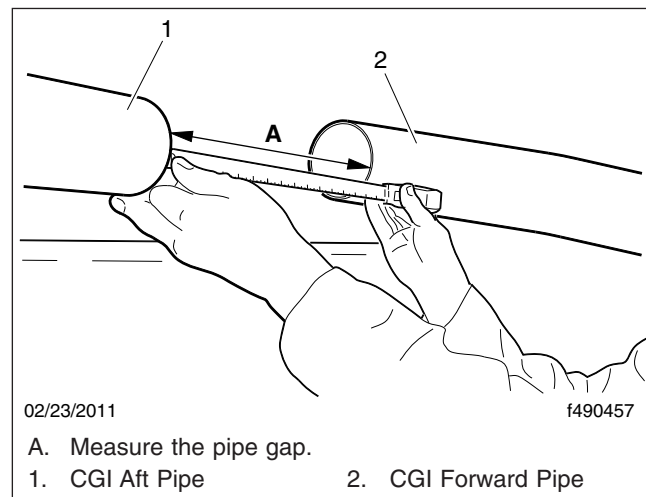

Fig. 9, Measuring the Pipe Gap (typical)
7. Once the pipes are aligned, measure the pipe gap between the CGI pipes and record the distance. See Fig. 9, Ref. A.